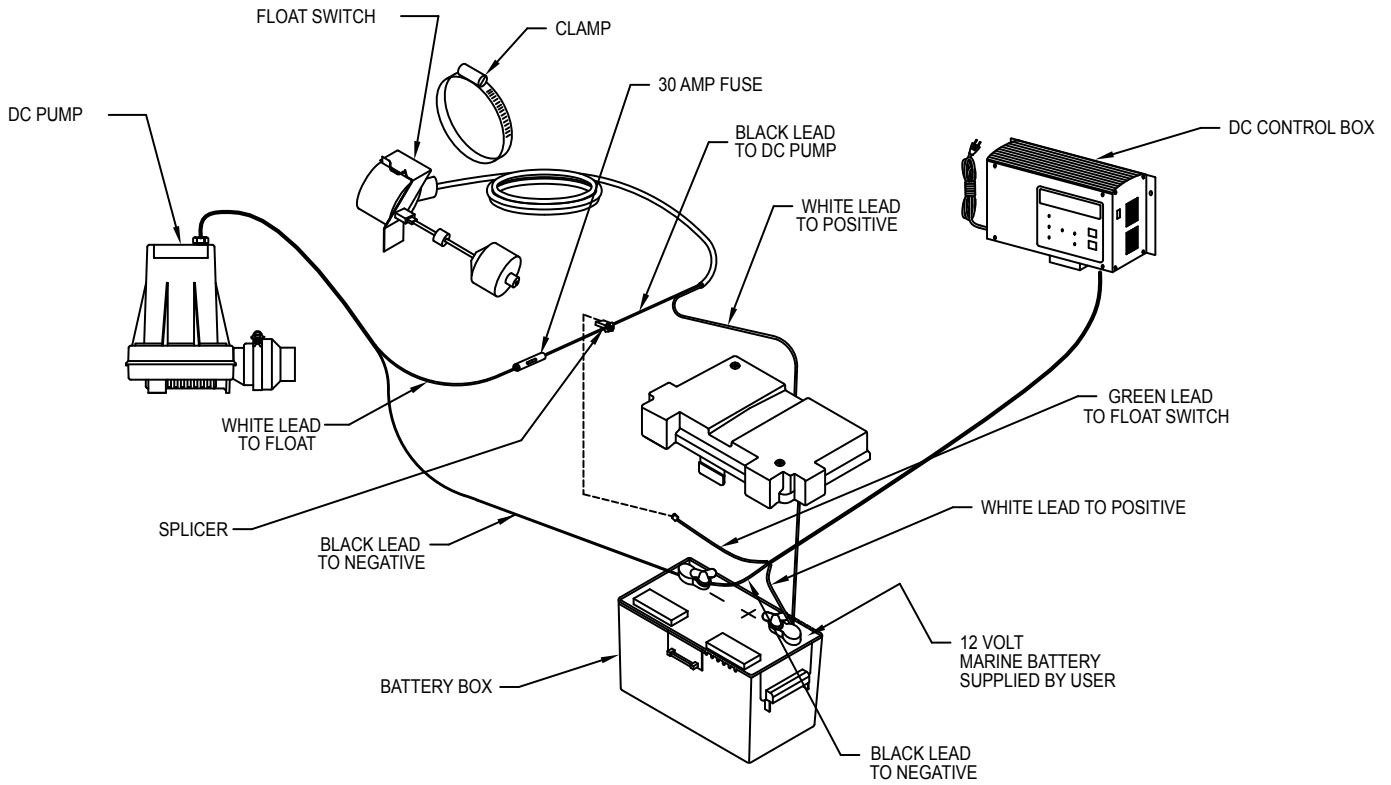

FIGURE 3
6. Connect the green sensor wire to the sensor connector (Figure 3).
- (a) Check 30 amp fuse in line from pump to switch (see Figure 3). If fuse is blown, replace with 30 amp AGC fuse.